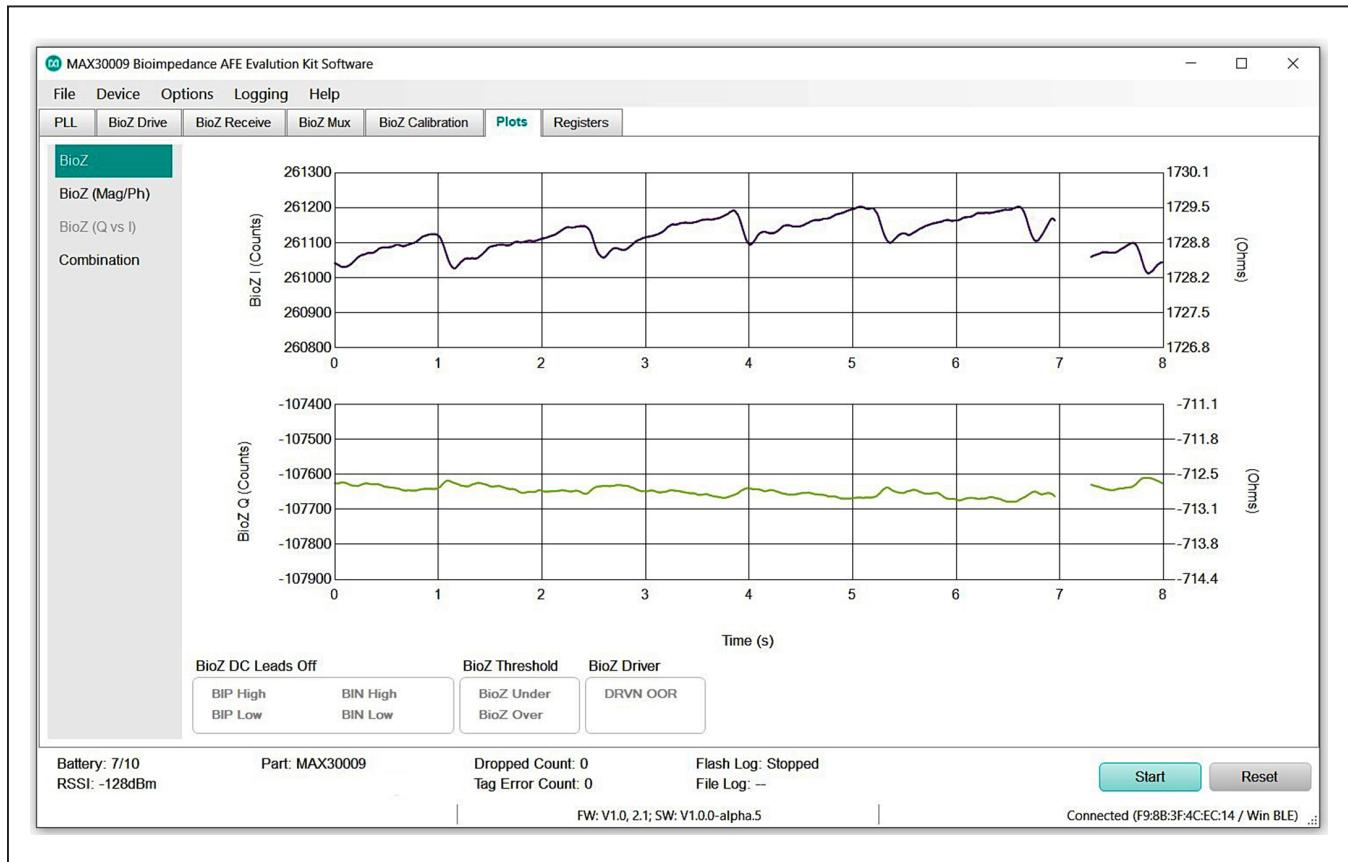

Figure 2. Plot of BioZ I and Q Signals
9) Click the **Start** button on the bottom right to start data acquisition. When running, the plots on the GUI should stream with data. Figure 2 shows an example of a plot with both I and Q BioZ enabled.